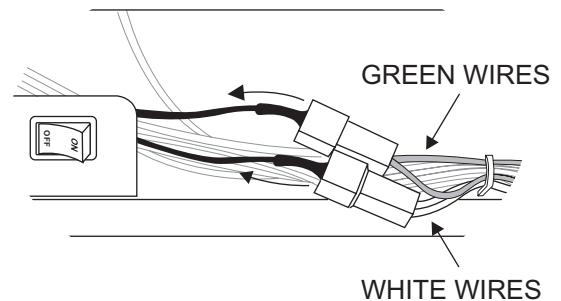

Figure 20
"IP" Valve - Locate the two 5-1/2 inch long black wires connected to the ON/OFF switch. Disconnect these two black wires at the green and white wire connections. Attach the flag terminals (the low voltage wire assembly found in the Instruction Packet) to the green and white wire connections. **See Figures 20 and 21.**
- b. For IP valve connections, locate the green and white wires from the control module, then connect the switch wire flag terminals to the green and white wire terminals. **See Figures 20 and 21.**